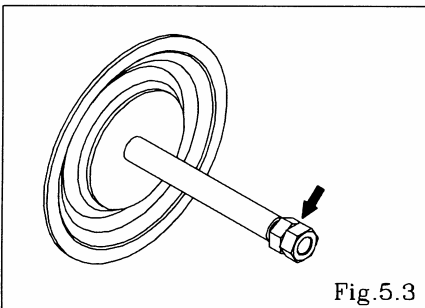

Fig.5.3
- Remove the nuts on the opposite side using the double nuts. [Fig.5.3]